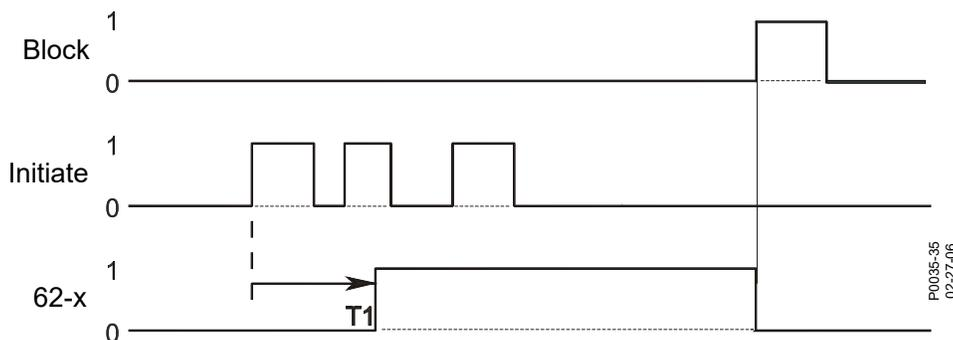

Figure 49-8. Latched Mode
Step 9: Use the Metering Explorer in BESTCOMSPlus to open the Reports, Sequence of Events screen. Verify that the 62-1 timer output remained false after the first 43-1 switch action (ON), the 62-1 timer output went true 30 seconds after 43-1 switch action (ON), and 62-1 timer output returned to a false state with the 43-2 switch action (ON). Figure 49-8 illustrates the timing relationship of the 43-1/43-2 switches and 62-1 timer.